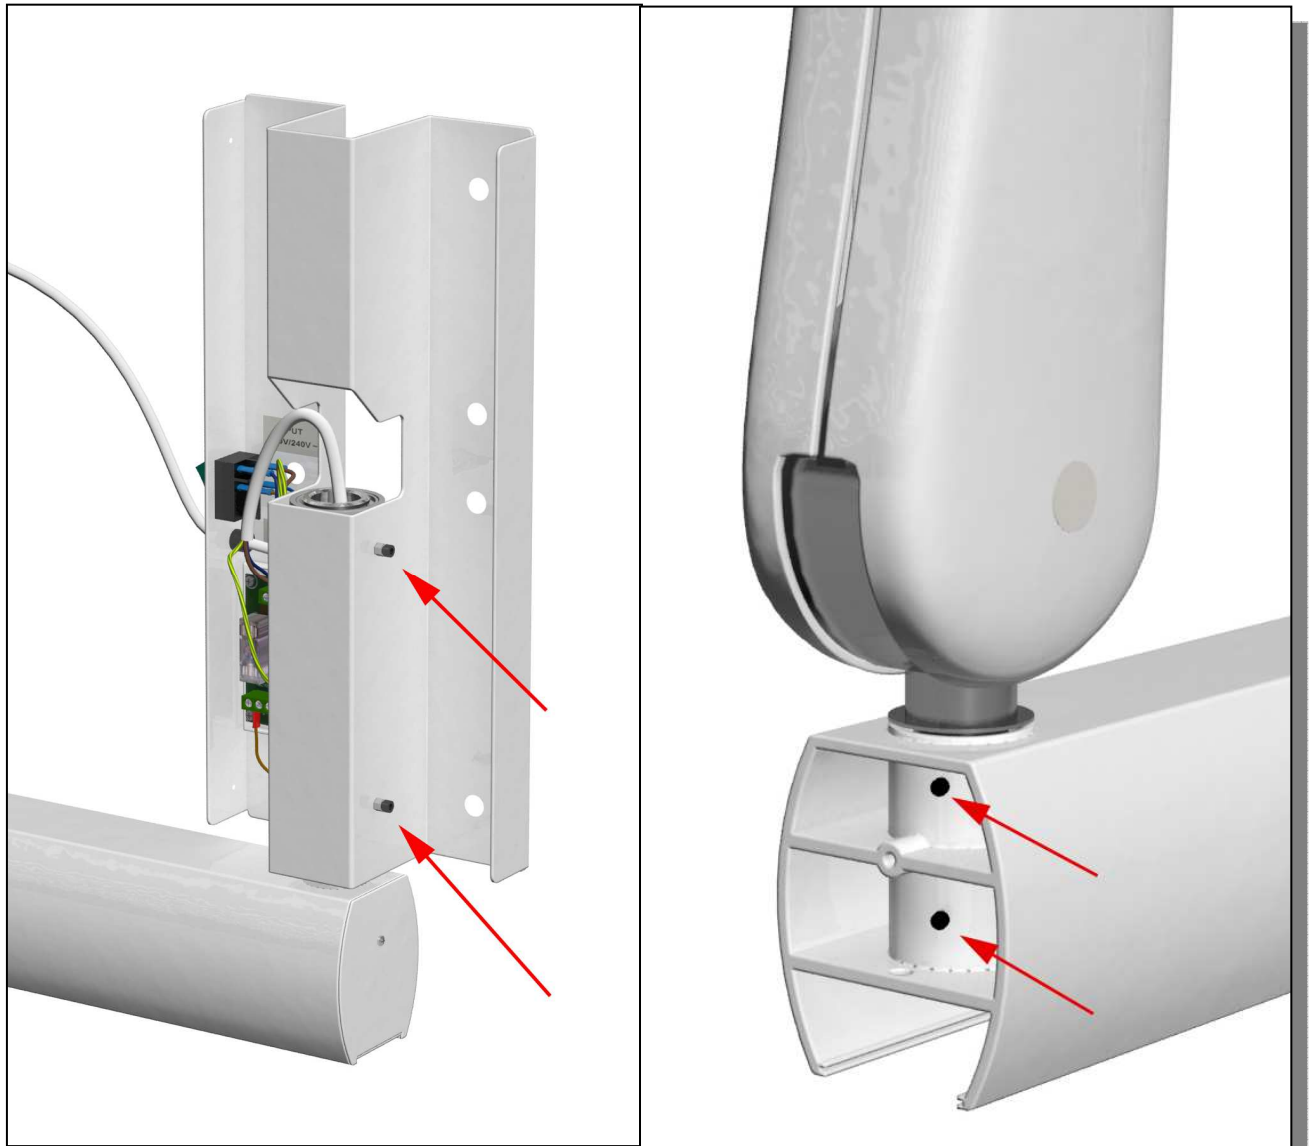

fig.10
- ✓ If necessary adjust the clutch screws of the wall plate **(A)** and the extension **(B)** as shown in fig.10 .